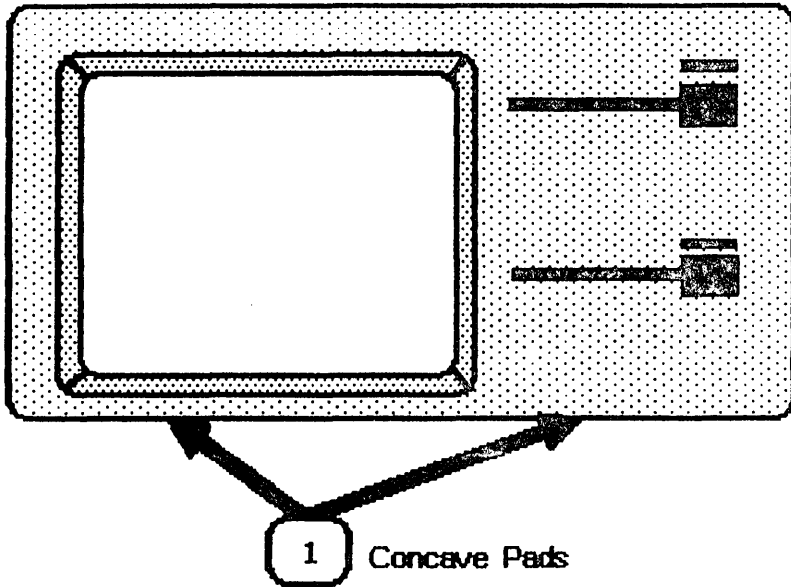

FIGURE 1
4. Place one finger on each of the two concave pads beneath the front panel (see Figure 1, #1).